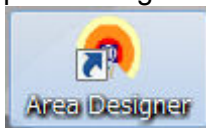

Fig 3.1 Area Designer icon
2. Click  Start menu → All programs → Area Designer. Or Double click Area Designer shortcut icon as shown on the desktop below Fig 3.1.